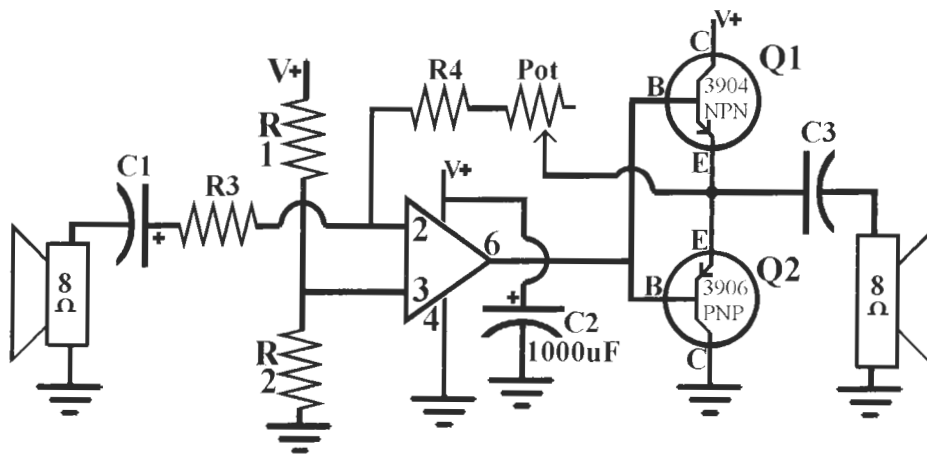

Figure L54-3
- a. Now set this second speaker into your SBB as shown here in Figure L54-3.